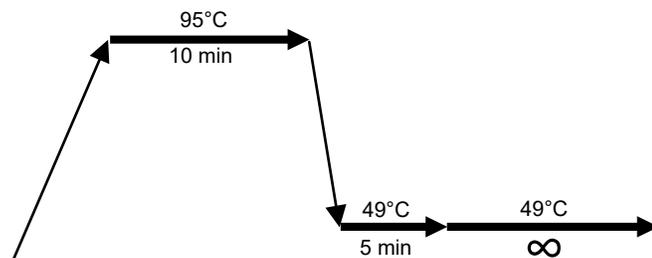

Figure 30 OncoScan Hybridization thermal cycler protocol.
2. Start the OncoScan Hybridization thermal cycler protocol. (Figure 30.)